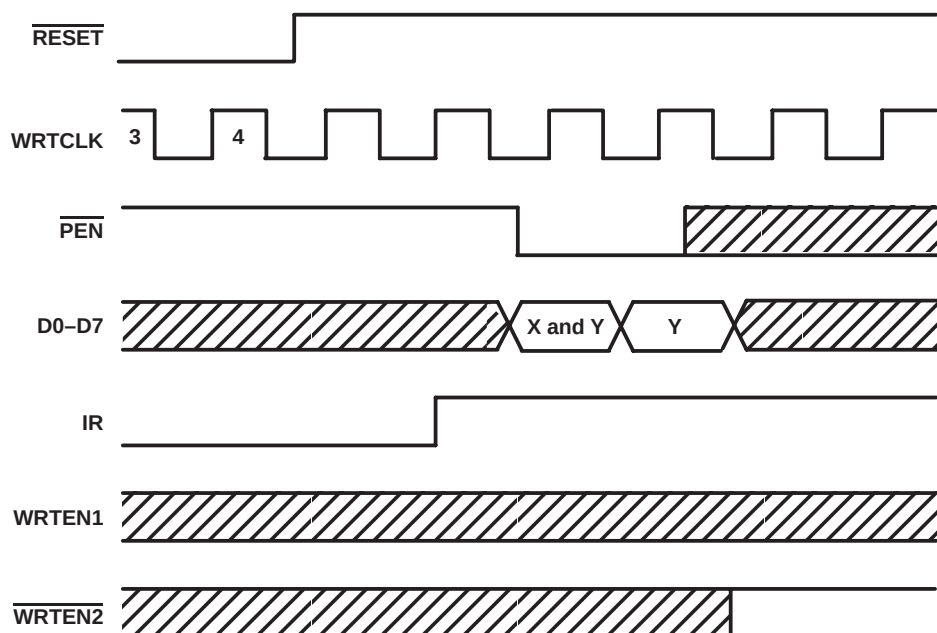

Figure 4. Programming X and Y Separately
Program enable ($\overline{\text{PEN}}$) should be held high throughout the reset cycle. $\overline{\text{PEN}}$ can be brought low only when IR is high. On the following low-to-high transition of WRTCLK, the binary value on D0–D7 is stored as the almost-empty offset value (X) and the almost-full offset value (Y). Holding $\overline{\text{PEN}}$ low for another low-to-high transition of WRTCLK reprograms Y to the binary value on D0–D7 at the time of the second WRTCLK low-to-high transition. When the offsets are being programmed, writes to the FIFO memory are disabled, regardless of the state of the write enables (WRTEN1, WRTEN2). A maximum value of 63 can be programmed for either X or Y (see Figure 4). To use the default values of $X = Y = 8$, $\overline{\text{PEN}}$ must be held high.